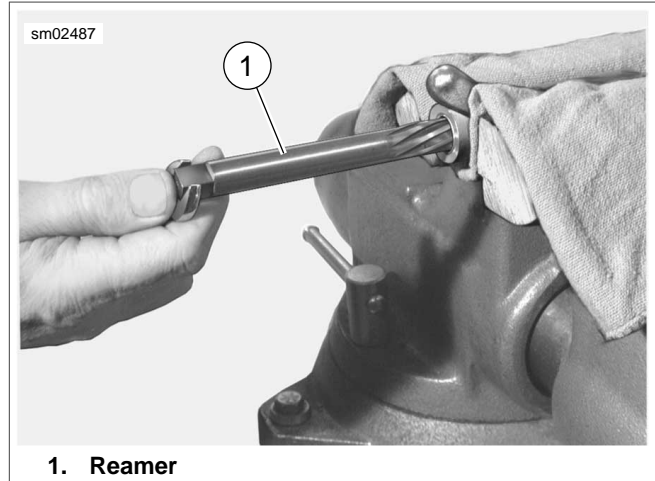

Figure 3-76. Ream Bushing
3. See Figure 3-76. Lock rocker arm in a vise using brass jaw inserts or shop towels to prevent casting damage. Insert tapered end of **ROCKER ARM BUSHING REAMER** (Part No. HD-94804-57) into old bushing in rocker arm. Note that old bushing on drive side of reamer as pilot. Rotate reamer until the **new** bushing on the far side is reamed, and then continuing in the same direction, draw drive side of reamer from **new** bushing.